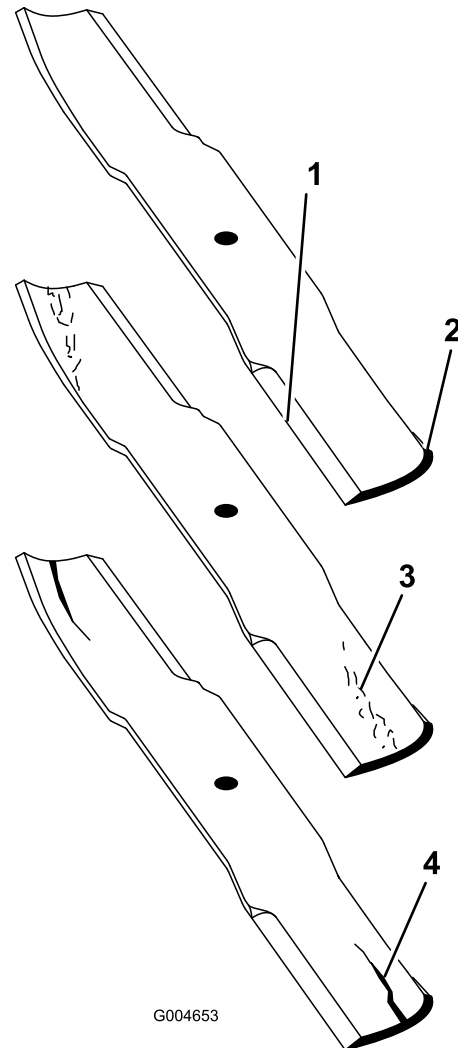

Figure 130
2. Examine the cutting ends of the blade carefully, especially where the flat and curved parts of the blade meet (Figure 130).
Note: Because sand and abrasive material can wear away the metal that connects the flat and curved parts of the blade, check the blade before using the mower. If you notice wear (Figure 130), replace the blade.